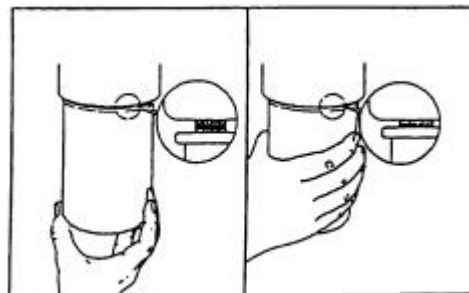

Fig. 5.34. Method of Oil Filter Installation
7. Install the filter on the filter header until the filter seal contacts the seal surface of the filter header and then, turn the filter an additional 1/2 to 3/4 turn by hand, Fig. 5.34. Do not overtighten the filter or damage may result to the filter seal or threads. Use genuine filters only.